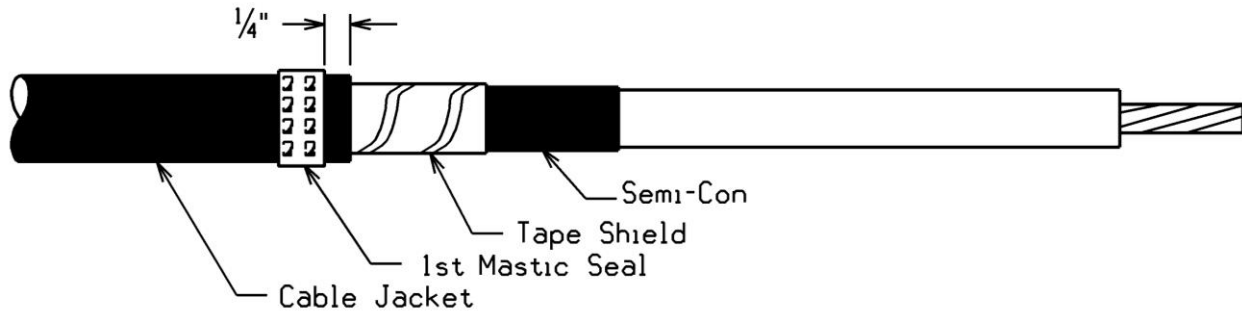

Figure 6
1. Select one of the mastic strips from the termination kit and remove the white release liners. Using light tension, apply a single wrap of mastic around the cable jacket $\frac{1}{4}$ inch from the cut edge. Cut off excess mastic. See Figure 6.